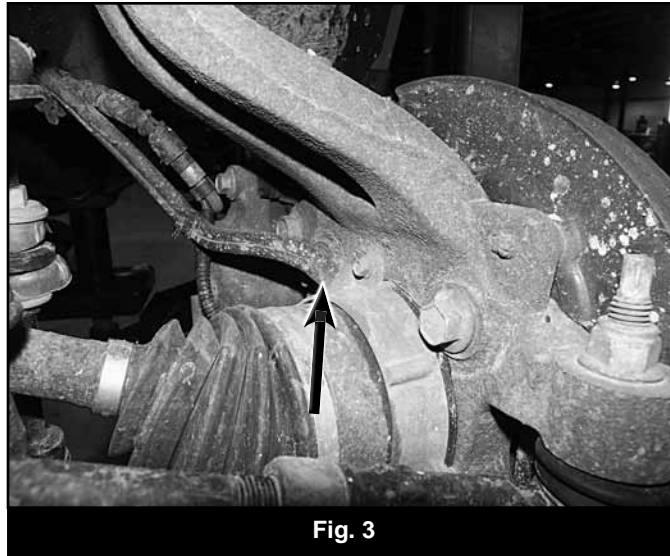

Fig. 3
8. Disconnect the hub vacuum line from the hub (Fig 3).